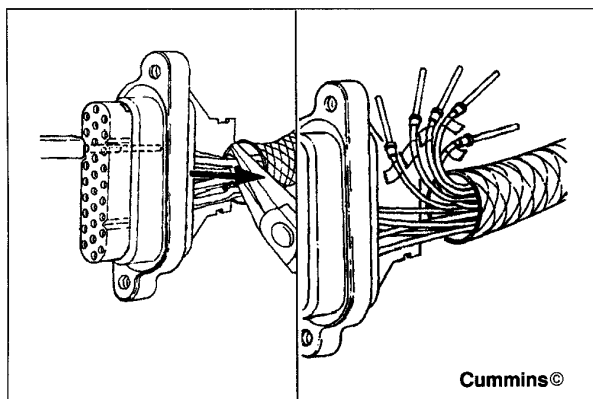

Figure 84 Label Each Terminal as It is Removed
5. Remove all of the terminals from the AMP connector labeling each terminal with the AMP cavity number as it is removed (Figure 84).